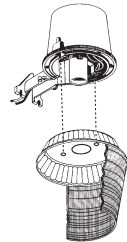

Fig. 3
Step 10: Fasten lens assembly to housing using the 2 lens assembly lock screws (G) and (2) washers (K) provided (Fig. 3).